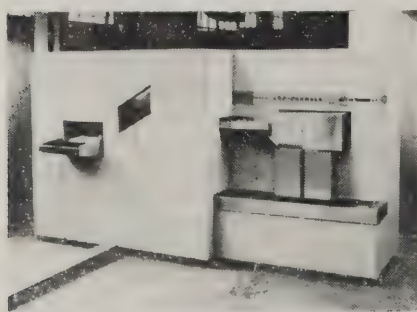
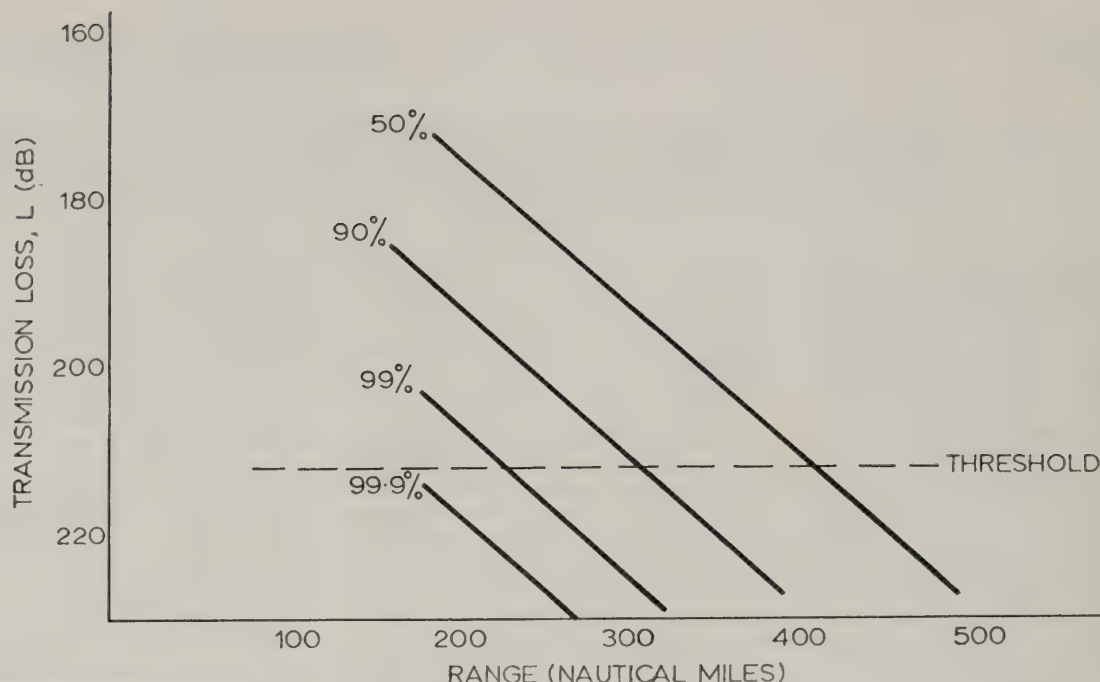

Figure 1 — General view of an Autolector installation.
FIG. 2 — Derivation of range probability.
Figure 2 — Mode of operation of the Autolector: (1) Control panel; (2) Loaded cassette; (3) Conveyor belt; (4) Selector arm; (5) Counter-rotating double-feed preventer; (6) Alignment rollers; (7) Vacuum drum; (8) Tungsten-iodine lamps; (9) Lens; (10) Optics box; (11) Document margin scale adjustment; (12) Reject bin; (13) Selector knives; (14) Output hopper with vibrating platform; (15) Assembler logic; (16) Power packs—1; (17) Power packs—2.
Fig. 1 shows a field strength versus distance curve of the signal received by an aircraft as it flies out over the Atlantic.¹ The test
FIG. 1 — Field strength versus distance curve for aircraft flying over North Atlantic. Frequency 220 Mc/s. Ground aerial height 80 ft. Aircraft height 30,000 ft. Airborne aerial gain 10 dB. Each point is a running 20 mile median of five flights.
A number of flight tests of extended range v.h.f. have been made under conditions varying from those of a propagation experiment to actual operation on airways. Ames,¹ to whom the data of Fig. 1 are due, carried out tests at 220 Mc/s over the North Atlantic. The system gain necessary for the long ranges recorded was obtained in part by
In Fig. 1 Ames's data is compared with Yeh's prediction and the consistence between them
The experiment of installing a high performance ground installation (capable, in terms of Fig. 1, of pushing the threshold into region (c)) for airways flying has been made at several locations. Under operational conditions it is impracticable to produce curves of field versus distance; it is more useful, too, if range probability curves are made from which can be seen the probability of establishing satisfactory communication as a function of range. The prediction formula may easily be made to give answers in this form. If the statistical distribution of the variation of median signal with time is known, then the probability of the signal exceeding the receiver threshold may be obtained as a function of range. Fig. 2 will clarify this. It has been drawn for a standard deviation of 7 dB, assuming a normal distribution of L in dB.